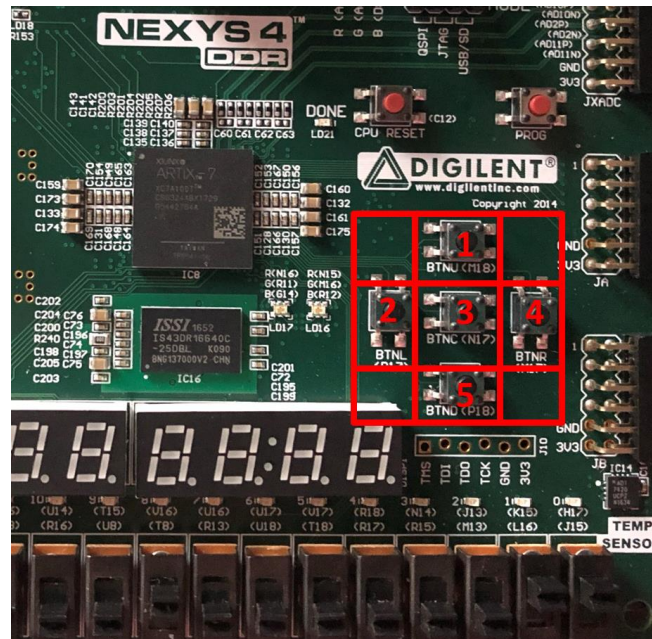

Fig 2. Push buttons as a keypad
- 1- Assign numbers 1 to 5 to the push buttons on the FPGA board as depicted in Fig. 2.
The goal of this project is the design and implementation of a digital lock using the Nexys4 board. The top level design of this digital lock is shown Figure 2. It consists of the following modules: